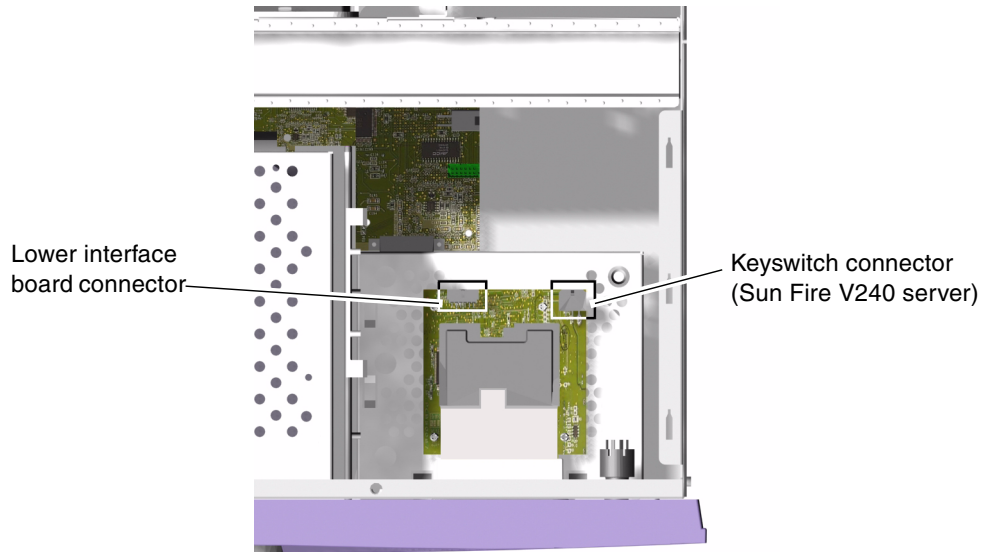

FIGURE 1-10 Location of Connectors on the System Configuration Card Reader
5. **Disconnect the cable leading to the lower interface board from the configuration card reader (FIGURE 1-10).**
6. (Sun Fire V240 server) Disconnect the keyswitch assembly wiring harness (FIGURE 1-10).